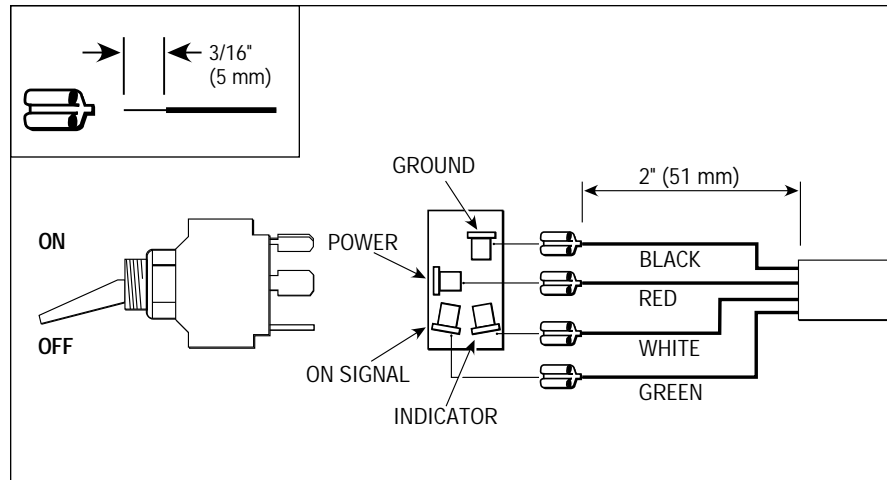

Figure 3-21 ON/OFF Switch Connections
6. Connect the terminals to the switch as shown. (See Figure 3-21)